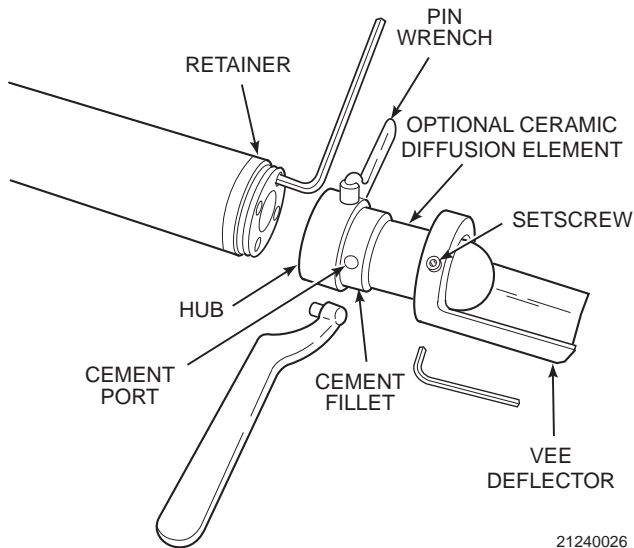

Figure 3-2. Removal of Optional Diffusor and Vee Deflector
- c. If equipped with the optional ceramic diffusor assembly, remove and discard setscrews, Figure 3-2, and remove vee deflector. Use spanner wrenches from probe disassembly kit, Table 4-1, to turn hub free from retainer. Inspect diffusion element. If damaged, replace element.
2. Loosen setscrews, Figure 3-2, using hex wrench from special tools kit, Table 4-1, and remove vee deflector. Inspect setscrews. If damaged, replace with M-6 x 6 stainless setscrews coated with anti-seize compound.